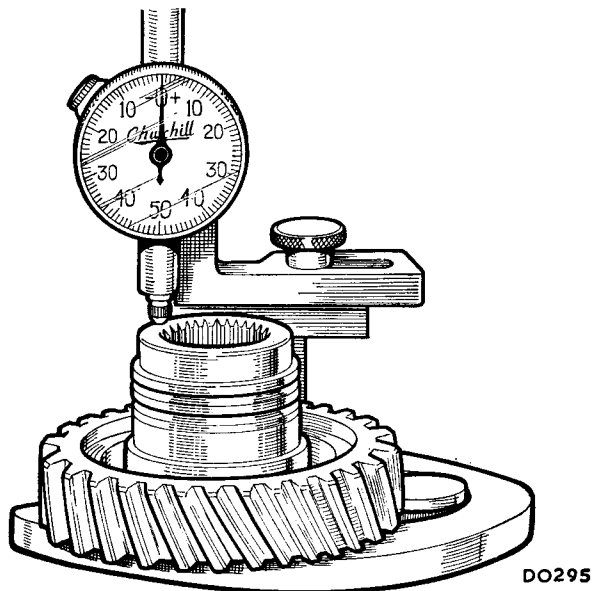

Fig. Aa.16
- (30) Carry out item (23).
(31) Place the input gear on a surface plate or onto Service tool 18G 191 A and use a dial test indicator gauge, Service tool 18G 191, to take a mean reading. Set the dial gauge to zero as shown in Fig. Aa.16.